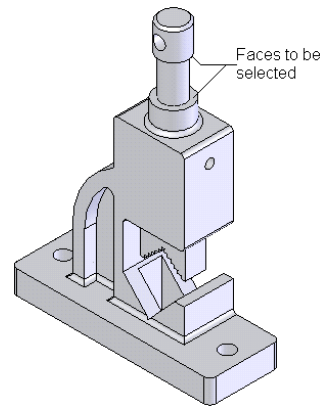

Figure 10-80 Faces to be selected
17. Next, select the faces as shown in the Figure 10-80.